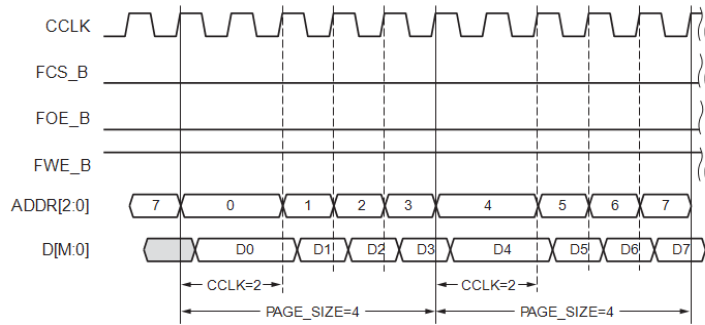

Figure 24: BPI-Up Waveforms (Page Size = 4 and First Access CCLK = 2)
control bits (see “Configuration Options Register 1 (COR1”). After the COR1 register is programmed, the BPI address timing switches at the page boundary as shown in Figure 24. When the SWITCH command is received, the master CCLK switches to a user- desired frequency, using it to load the rest of the configuration. Refer to the “BitGen” section of the Development System Reference Guide for details on BitGen options.
Notes related to Figure 24:
- Figure 24 shows BPI-Up mode, a page size of 4, and a first access CCLK of 2.